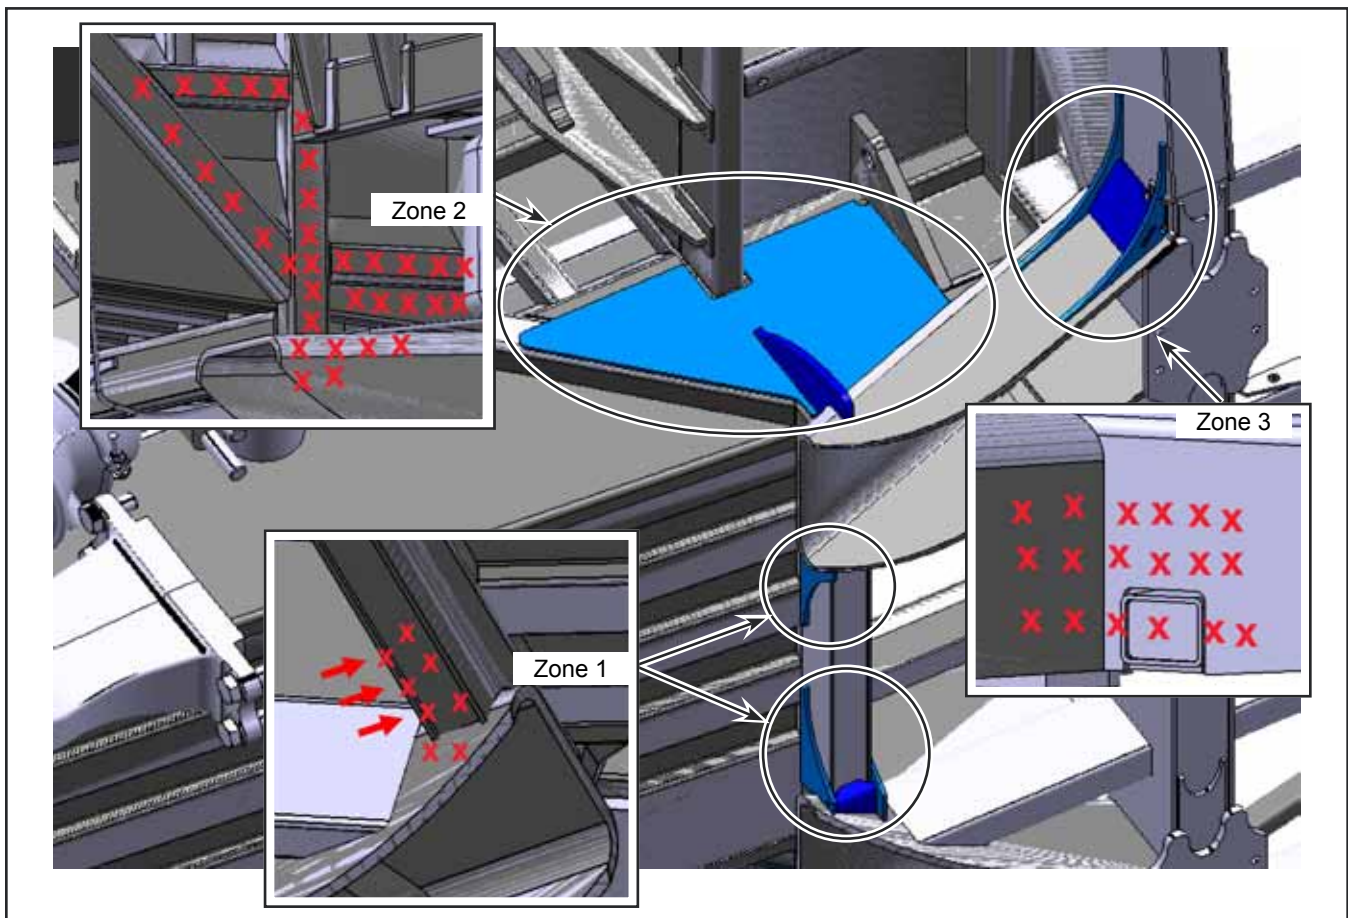

Figure 4 - View of the Zones to Reinforce with the Plates Installed
1.10. Clean the surface of zones 1, 2 and 3 to be reinforced. See Figure 4 for the location of the zones. The zones are identical inside both rear wheelhouses.